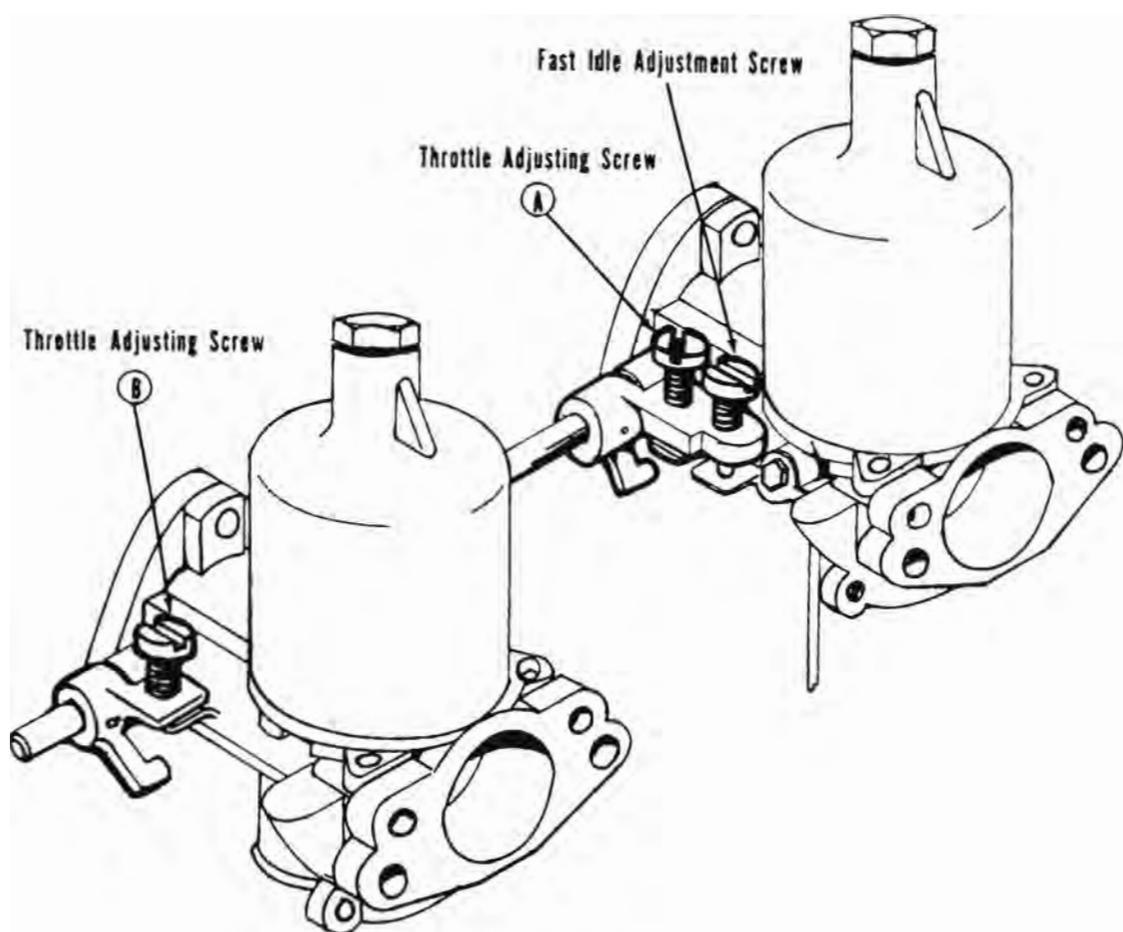

FIG. 36
12. Adjust each throttle adjusting screw A and B in Figure 36 until the engine is turning over at approximately 500 rpm.